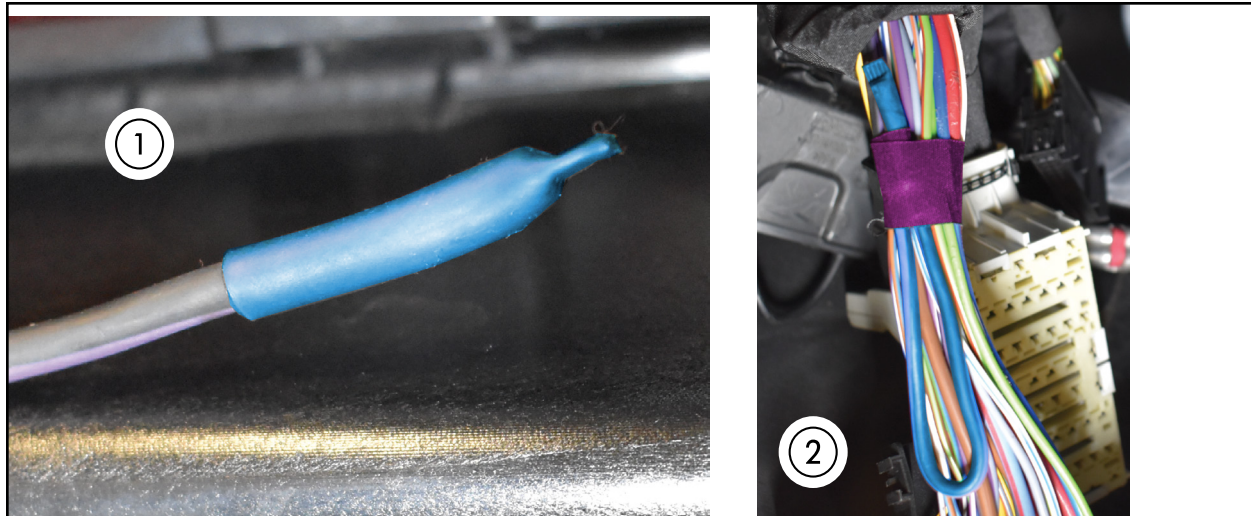

FIGURE 21
23. Add Dual Wall Heat Shrink tubing to cover open end of the black-violet wire. Bend the circuit with heat shrink into the bundle and secure with Coroplast tape. See Figure 21.